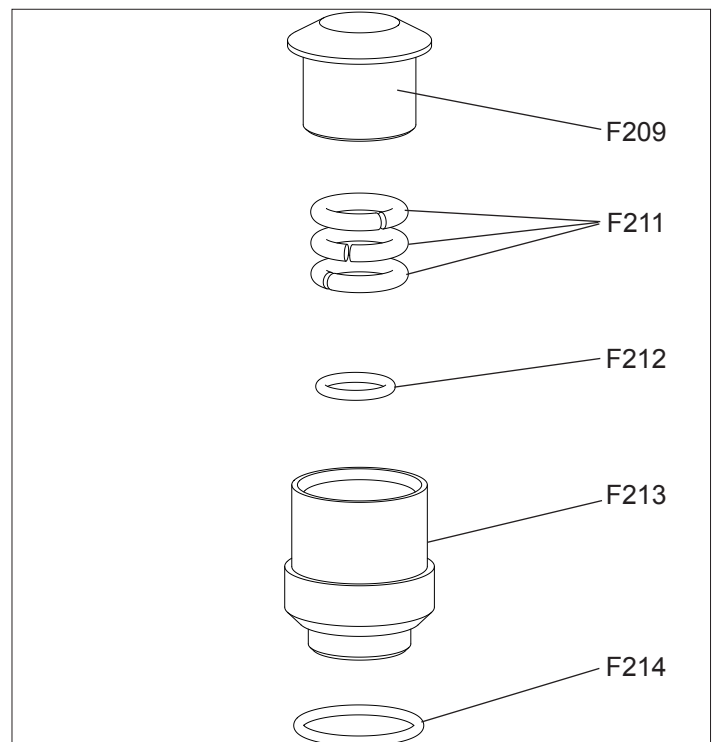

Fig. 7B
**NOTE:** These O-rings are split-type o-rings. When replacing them, insure that the splits DO NOT align. Rotate the splits at approximately 30 degree intervals. (See Fig. 7B)